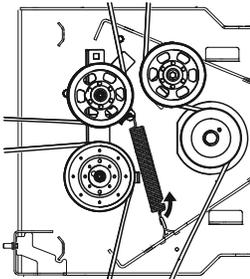

Figure 38
- b. Remove the idler spring from the wireframe spring hook on the right side of the center of the deck. See Figure 38.